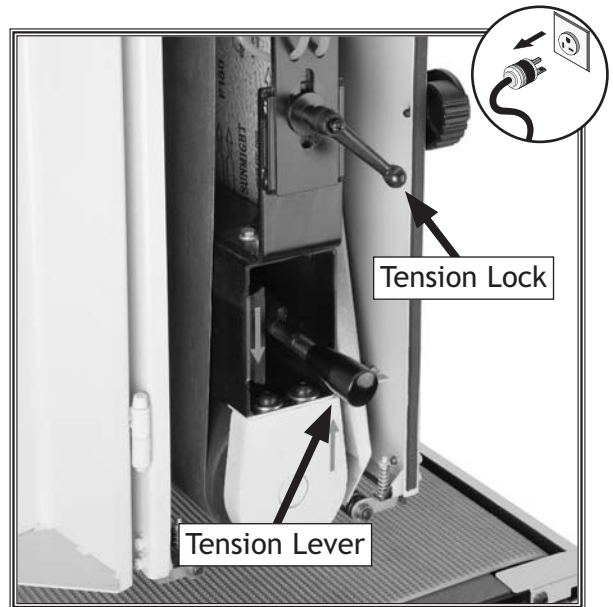

Figure 17. Sanding belt tension lock and lever.
2. Open the sanding belt access door and loosen the tension lock shown in **Figure 17**.